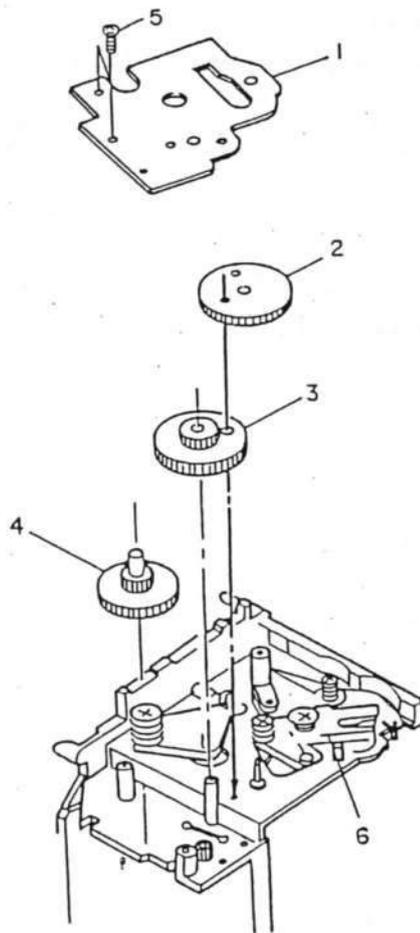

Fig.24
B. Mirror Box: Left (Fig.24)
(1) Put the Q1 GEAR (No.4).
(2) Set the Q2 GEAR (No.3) as shown in Fig.24.
(3) Pull up the MIRROR FRAME (No.6) then set the M CAM GEAR (No.2) as shown in Fig. 24.
(4) Put the M SIDE PLATE (No.1) then tighten two SCREWS (No.5).